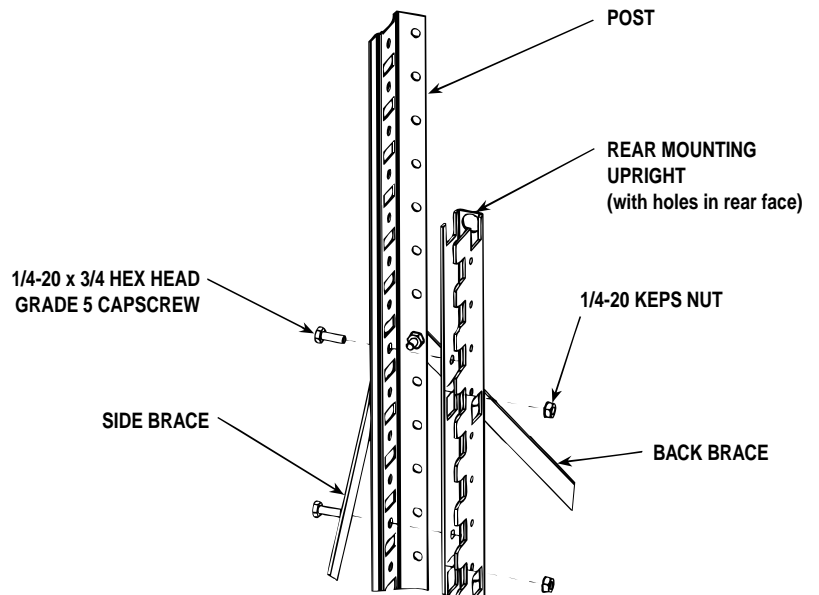

FIGURE 1.1
2. Position the mounting upright on the inside of the post. If there is interference with attachment screws of side braces, reattach the side braces to the outside of post for only one unit or to the inside of mounting uprights for any run of shelving units. (See Figure 1.1)